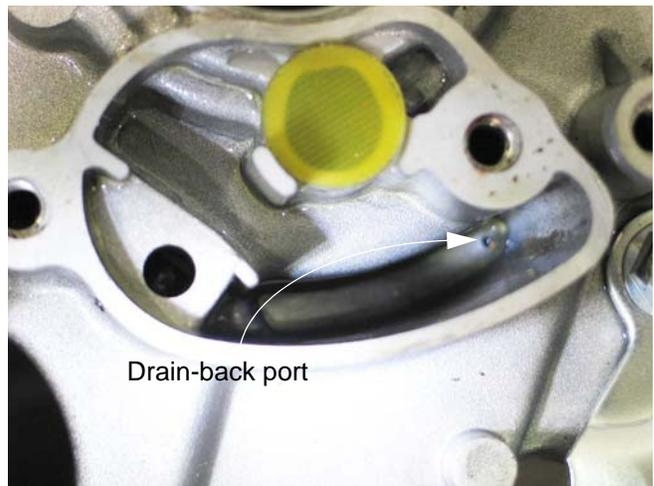

Figure 5.13
6. Inspect the oil drain-back port. Make sure it will allow oil to drain back into the engine. See Figure 5.13.